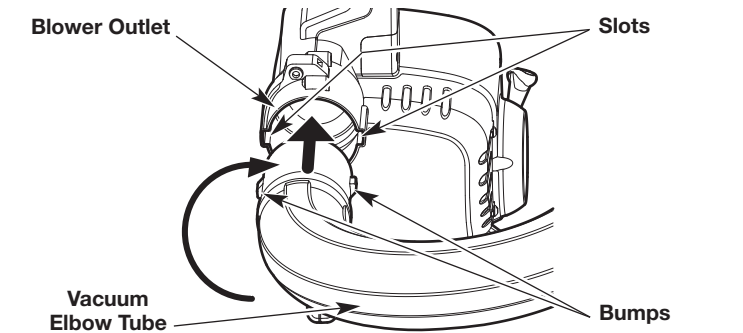

Fig. 8
2. Align the bumps on the vacuum elbow tube with the slots on the blower outlet (Fig. 8). The flared end of the vacuum elbow tube should point to the right.
3. Insert the vacuum elbow tube into the blower outlet (Fig. 8).
4. Twist the vacuum elbow tube clockwise until it locks into place (Fig. 8).